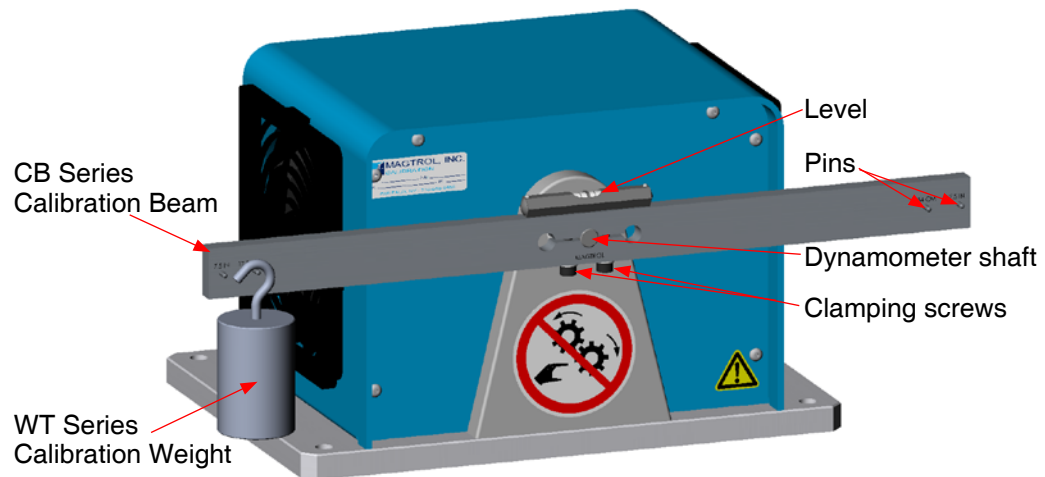

Figure 6–2 Calibration Setup
1. Place the calibration beam onto the dynamometer shaft, inserting the shaft through the center hole of the beam. Secure by tightening the clamping screws. See *Figure 6–2*.